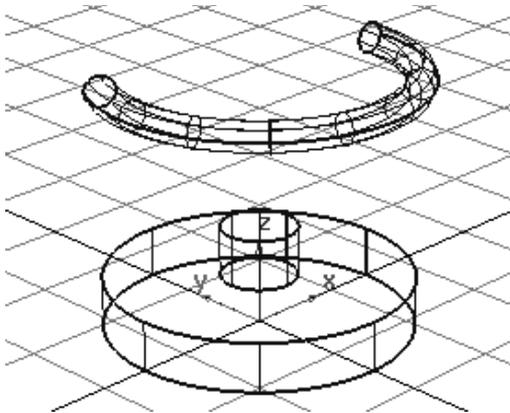

Figure 2-102 Torus created for the ring of the globe
4. Enter **0, 0, 250** in the promptline and press ENTER; the ring is created in the window, as shown in Figure 2-102.